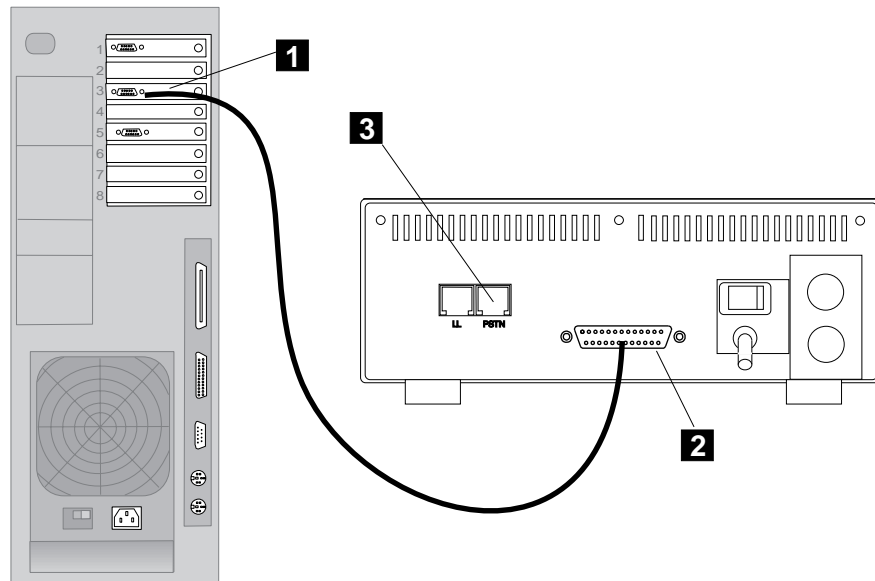

Figure 1-110. Connecting the Service Processor (9585) to the 7857
- **9585**, refer to Figure 1-110